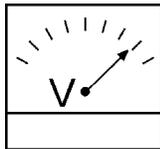

Figure 42. Voltmeter
6. The generator's AC-voltmeter (Figure 42) will display the generator's output in **VOLTS**. If the voltage is not within the specified tolerance.